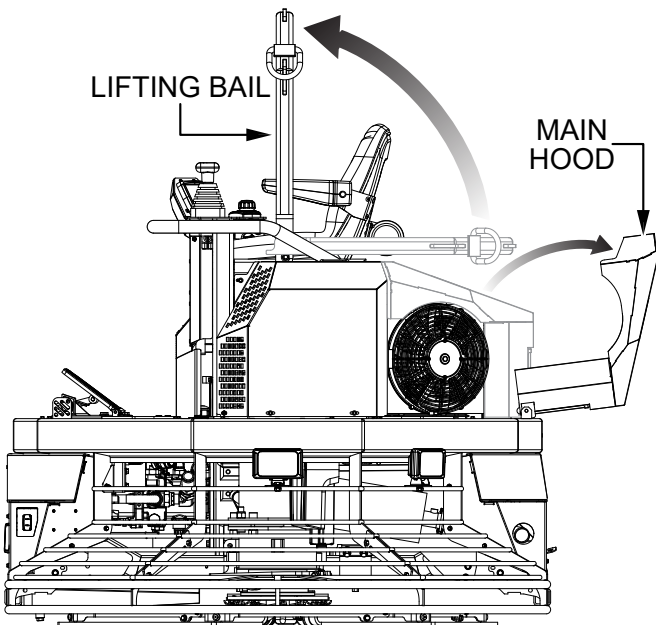

Figure 6. Lifting Bail and Main Hood
3. If the hydraulic oil level is low, raise the lifting bail and open the main hood of the trowel as shown in Figure 6.